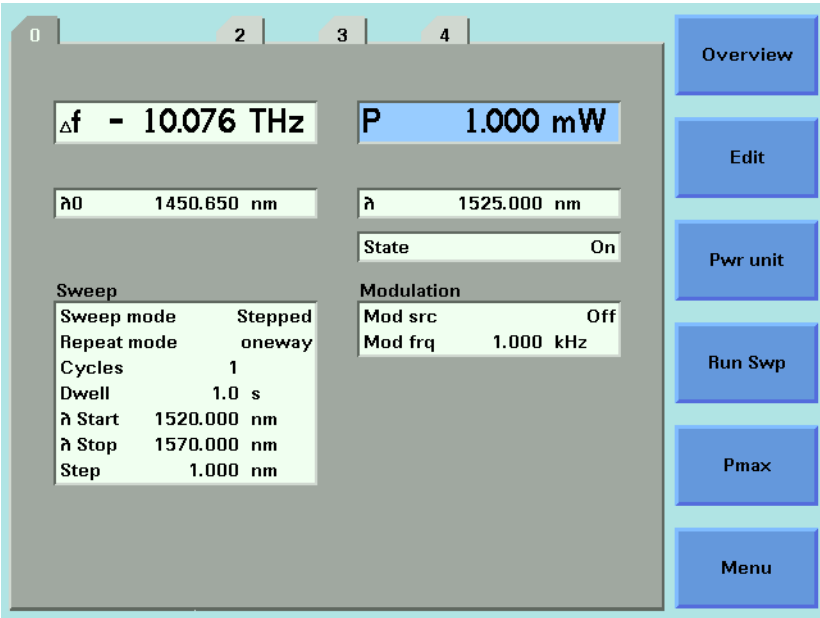

Figure 83      Setting a Relative Wavelength
- 4 Move to *<Offset>*, by using the cursor key, press *Enter*, and press *Close*. You see the screen in Figure 83 on page -145.